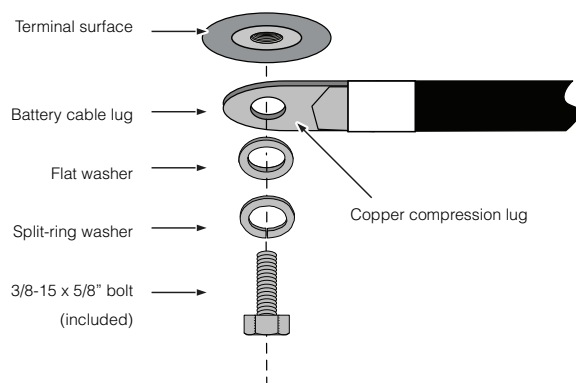

Figure 3-7 Battery cable connection
- Be sure to observe proper polarity. See Figure 3-7 (above) for the proper stacking order of hardware.
6. Connect the NEGATIVE (–) battery cable to the NEGATIVE (–) DC terminal on INV1. Be careful to observe proper polarity. See Figure 3-7 (above) for the proper stacking order of hardware.